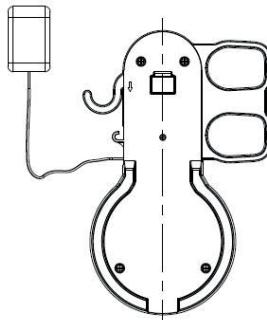

Fig. 2
2. Trace each of the four holes with a pencil. Use a spirit level to ensure the base is perfectly horizontal (Fig. 2).